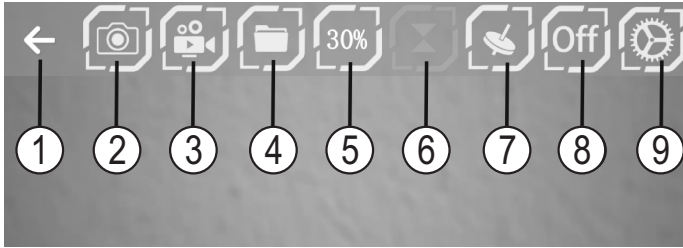
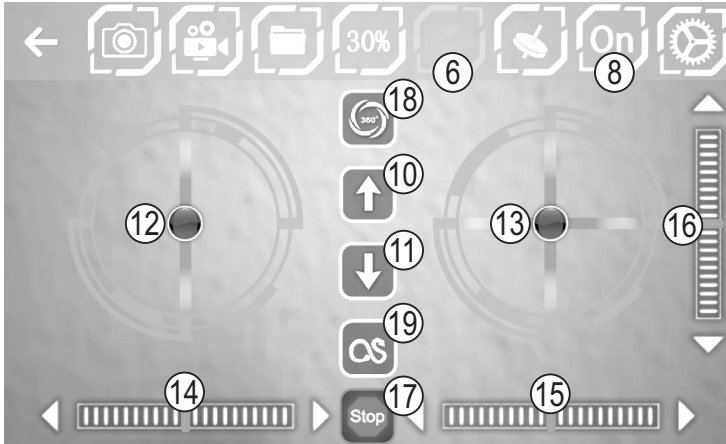
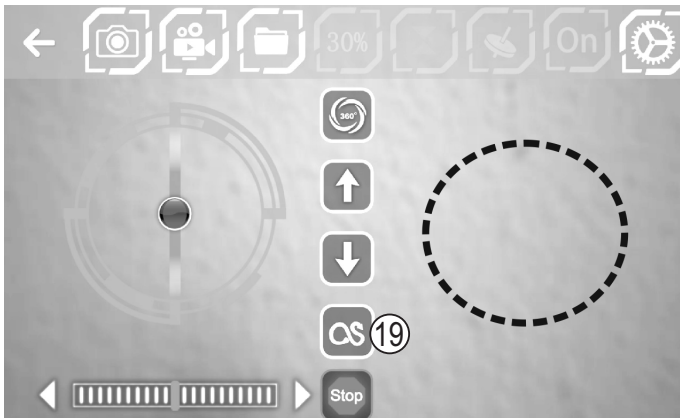

Figure 14
Figure 16
Figure 17
Select "CONNECT" (B) to open the interface in figure 14.
The icons in the top row (1–9, see figure 14) have the following functions:
To take a photo or record a video with the quadcopter camera, touch the corresponding icon on your smartphone display (see figure 14, positions 2 and 3).
→ Continuous shooting is not possible. Touch icon #2 in figure 14 to enable the camera, and then release the icon to take a photo. Touch icon #3 in figure 14 to end a video recording.
When you have finished flying the quadcopter, you can view images and videos on your smartphone. Touch the corresponding icon on the display (figure 14, position 4). A new screen will be displayed.
When you start the app, a number of icons are displayed with the camera image (see figure 16). In addition to the camera control icons (see figure 14, position 2 - 4), the remote control icons are displayed when you select the corresponding icon in figure 16, position 6/8. The left-hand control icon (figure 16, position 12) controls the altitude and rotation about the vertical axis (yaw). The right-hand control icon (figure 16, position 13) controls the pitch and roll.
Figure 16 shows the trim icons for "yaw" (position 14), "roll" (position 15) and "pitch" (position 16).
Select "CONNECT". The in-app control icons will be displayed (see figure 14) together with the video image from the built-in camera.
Select the icon in position 6, figure 14, and then select the icon in position 6, figure 14. The control pads will appear as "points" together with all other icons that are needed to control the quadcopter (see figure 16).
Select the icon in position 10, figure 16. The rotors will start and the model will take off and hover in front of you at a height of approximately 1.5 m.
The two control icons (see figure 16, positions 12 and 13) function like the control pads on the remote control. Keep your smartphone in your hands. Touch each "point" with your finger (for best results, use your thumb) and control the quadcopter in the same way as you would with the remote control (see section 11 and 12).
To land the quadcopter, move the left-hand control icon (figure 16, position 12) backwards slightly. Alternatively, initiate an automatic landing by selecting the icon in figure 16 (position 11).
By default (see figure 14, position 5), the app is set to 30 % of the maximum steering range. This corresponds to beginner mode (see section 11) and restricts the impact of steering commands.
An additional bar is displayed when you touch this icon again (figure 14, position 5). The steering range is now set to approximately 60 % of the maximum. This corresponds to advanced mode, which makes the quadcopter more agile.
Select the icon in position 18, figure 16 to enable the flip function. Move the right-hand control icon (figure 16, position 13) forwards to make the quadcopter perform a forwards somersault. Refer to the instructions in section 12.
Touch the icon in figure 16 (position 19) to enable the "flight route" function. The left-hand control icon will stay on the screen and can be used to control the altitude and yaw. The right-hand control element will not be displayed. Use this space to draw a flight path (see figure 17, e.g. a circle). The quadcopter will automatically follow the designated route. Bring the quadcopter into a stable position and enable flight route mode (touch icon #19). Draw a route on the display. When you have finished drawing a route (lift your finger from the display), the quadcopter will immediately follow the designated route.
Touch the cog icon (figure 14, position 9) to display additional control icons.
To control the quadcopter with your smartphone's position sensors, follow the instructions in section 14. b) to prepare the quadcopter for take-off, and then select the icon in position 7, figure 14 to activate position sensor control.
Touch the "Automatic take-off" (fig. 16, position 10) or "Automatic landing" (fig. 16, position 11) to make the quadcopter take off or land.
Use the left-hand control icon (figure 16, position 12) to control the altitude and the rotation about the vertical axis.